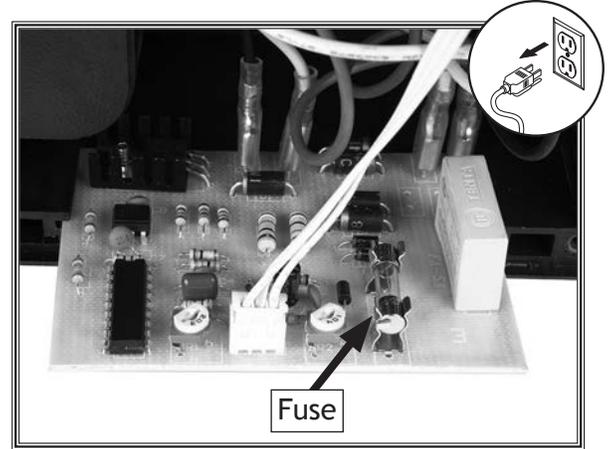

Figure 37. Fuse location on circuit board.
2. Remove switch cover, slide circuit board partially out, remove fuse (see **Figure 37**), and install a new one.